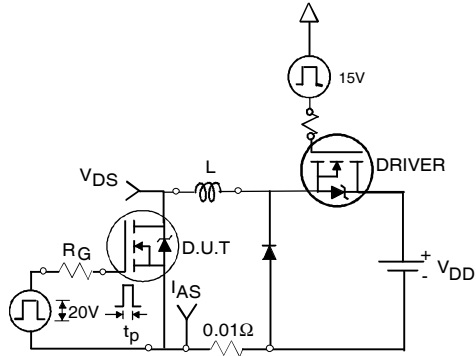

Fig 12a. Unclamped Inductive Test Circuit
- ④ Pulse width ≤ 400μs; duty cycle ≤ 2%.
- ⑤ C_{oss eff.} is a fixed capacitance that gives the same charging time as C_{oss} while V_{DS} is rising from 0 to 80% V_{DSS}.
- ⑥ Calculated continuous current based on maximum allowable junction temperature. Package limitation current is 75A.
- ⑦ Limited by T_{Jmax}, see Fig.12a, 12b, 15, 16 for typical repetitive avalanche performance.
3. Equation below based on circuit and waveforms shown in Figures 12a, 12b.